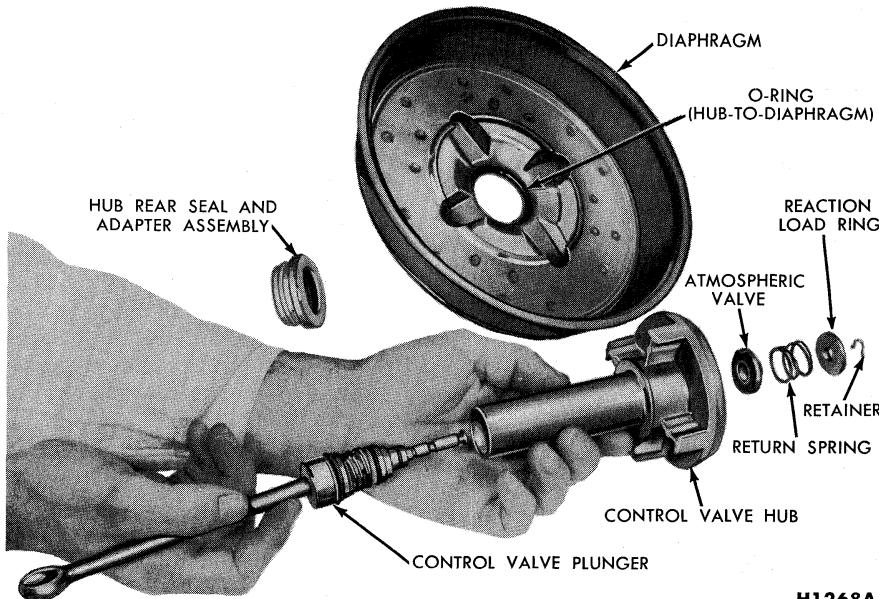

FIG. 27—Disassembly or Assembly—Control Valve Components-to-Hub and Diaphragm
13. Remove the hub rear seal and adapter assembly from the rear of the control valve hub, then separate the hub and plunger assembly from the diaphragm. Remove the retainer, the reaction load ring, the return spring, and the atmospheric valve from the hub and plunger, then slide the plunger out of the hub (Fig. 27). Remove the O-ring from the front side of the diaphragm. Remove the hub rear seal from the adapter assembly.
3. Insert the control valve plunger into the control valve hub from the rear of the hub (Fig. 27).